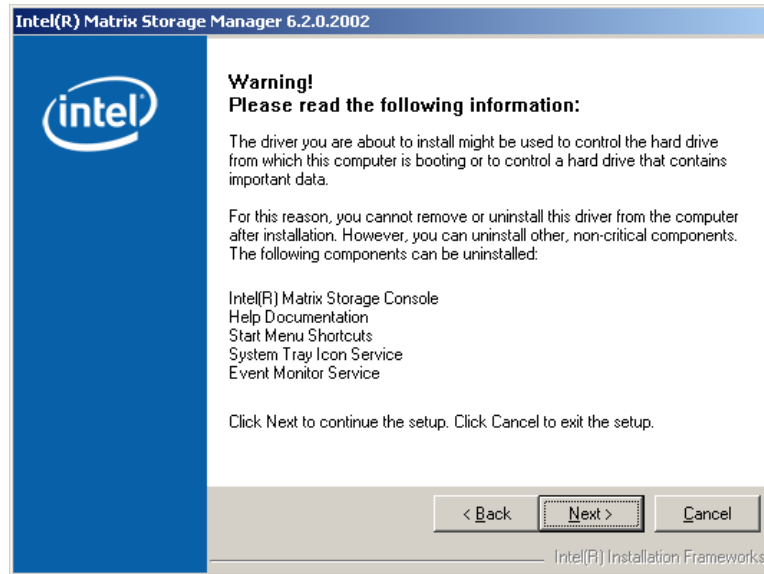

Figure 7-40: Matrix Storage Manager Warning Screen
Step 8: Click **NEXT** and a warning appears (**Figure 7-40**). Read the warning carefully and decide whether or not to continue the installation process.